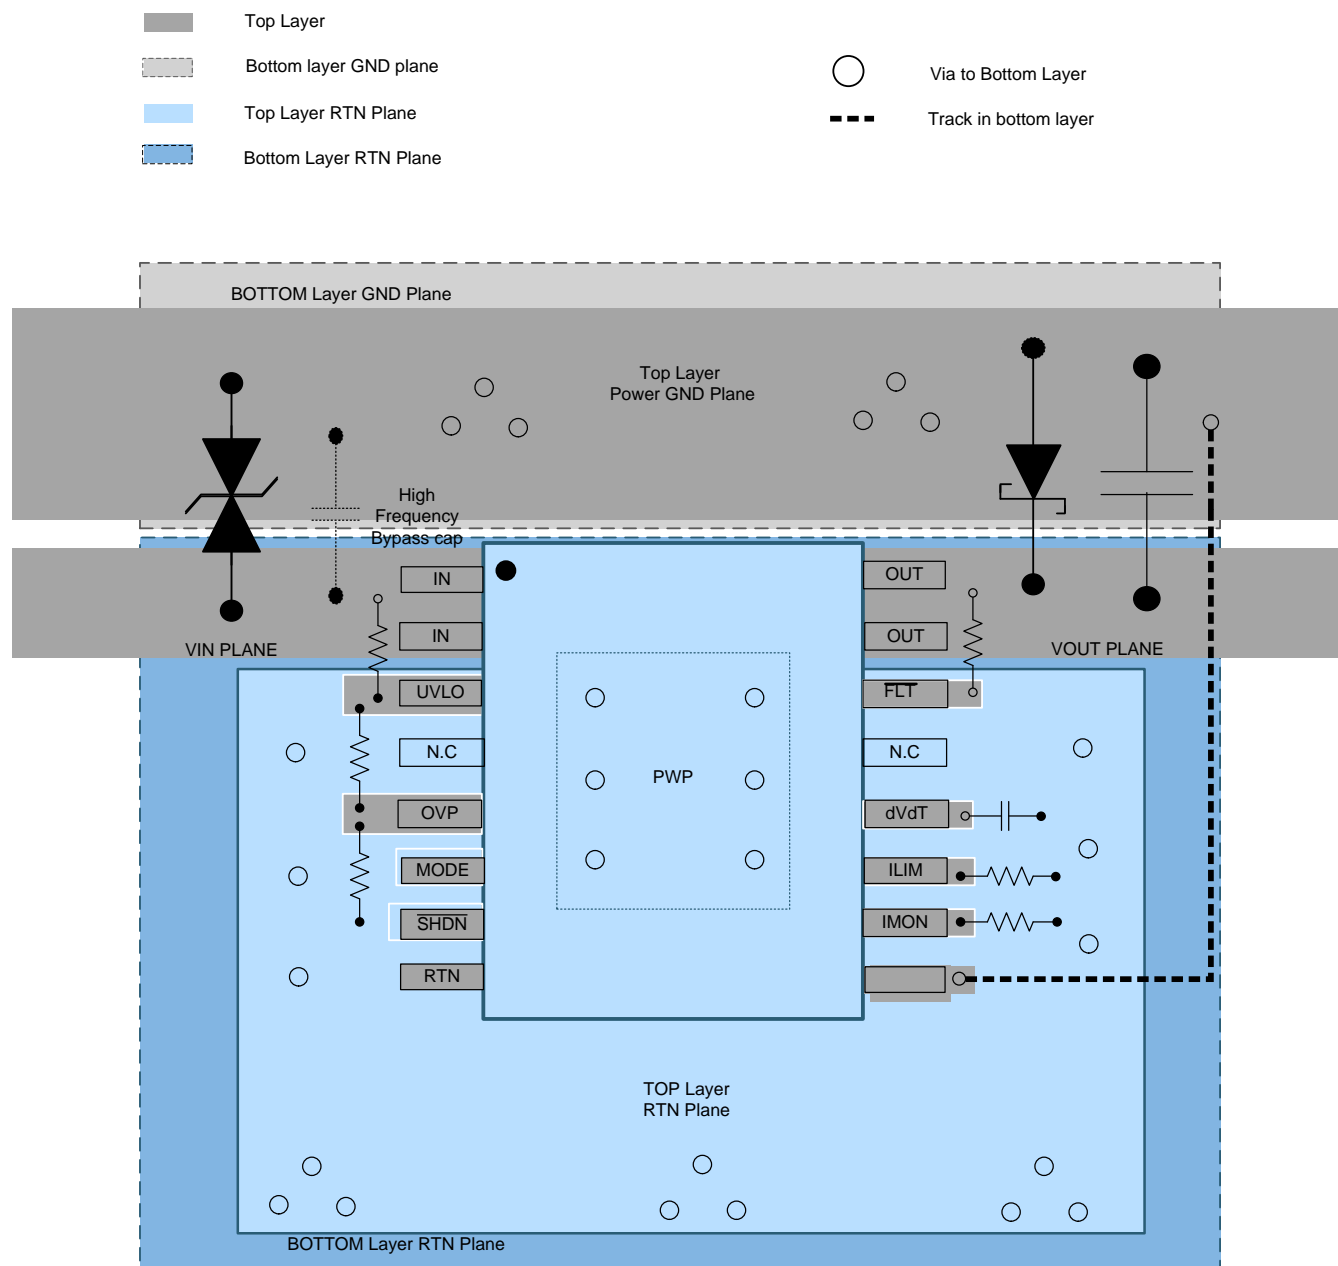
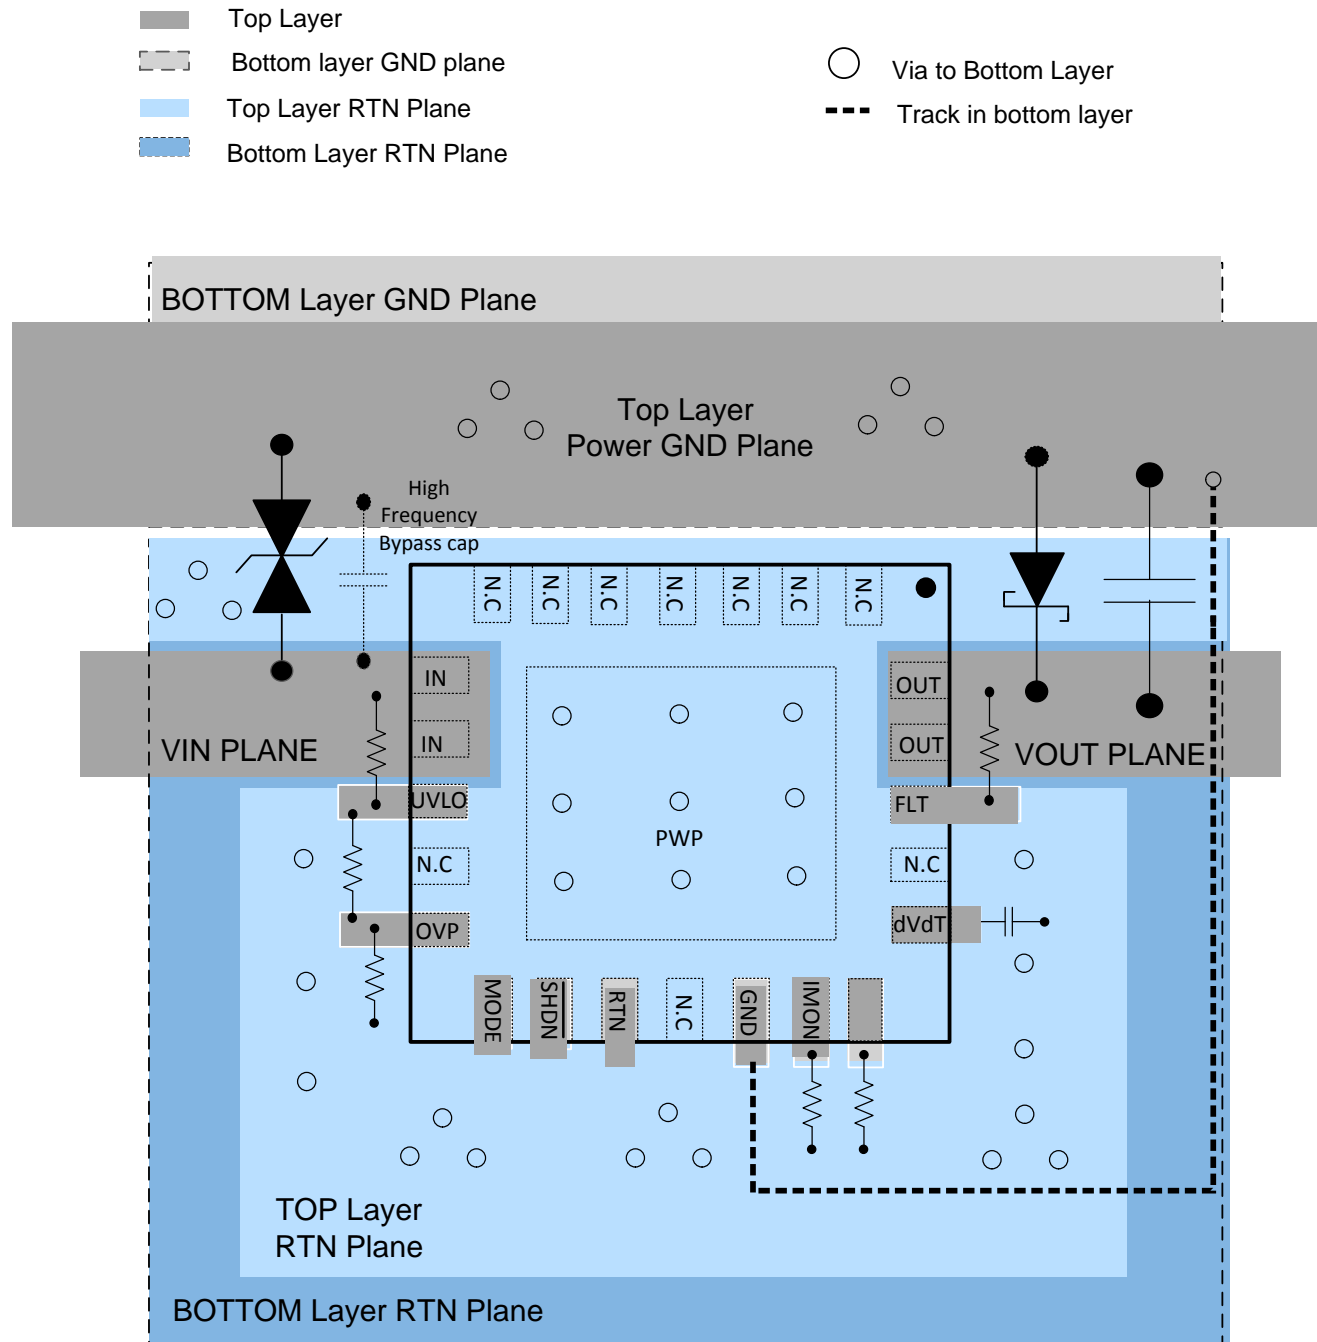

Figure 71. Typical PCB Layout Example with HTSSOP Package with a 2 Layer PCB
Figure 72. Typical PCB Layout Example with VQFN Package with a 2 Layer PCB
- The optimum placement of decoupling capacitor is closest to the IN and GND terminals of the device. Care must be taken to minimize the loop area formed by the bypass-capacitor connection, the IN terminal, and the GND terminal of the IC. See Figure 71 and Figure 72 for PCB layout examples with HTSSOP and VQFN packages respectively.